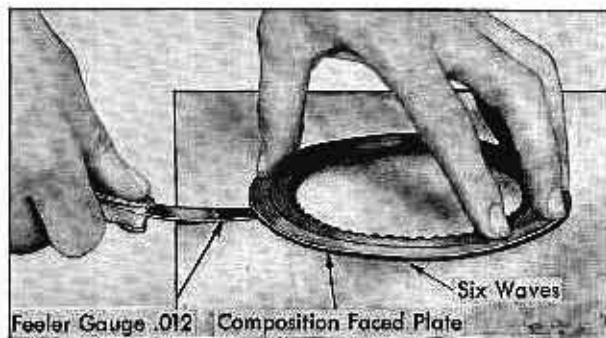

Fig. 14-40 Checking Clutch Plates
4. Inspect composition-faced driving clutch plates for damaged surfaces, worn teeth, and correct waviness. Plates should have 6 waves at least .010" deep, Fig. 14-40.